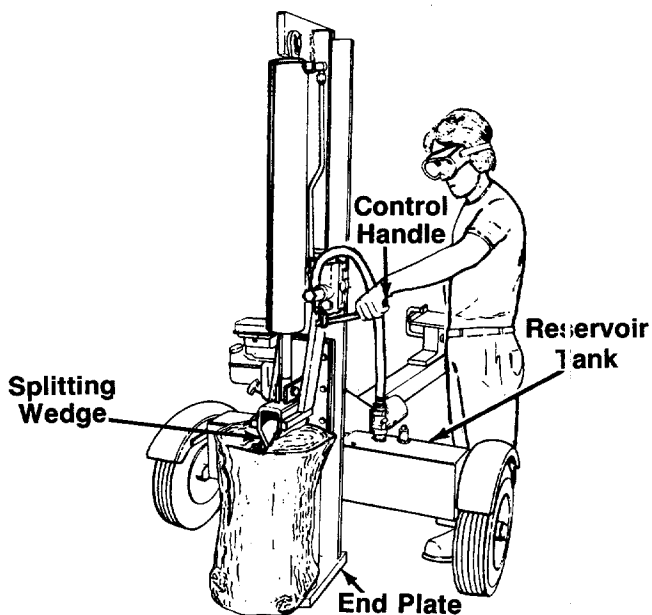

FIGURE 14.—Vertical Position
Use the log splitter only on a level, hard surface. Never stand next to the splitting wedge when operating the log splitter. Always stand behind the reservoir tank. See figures 14 and 15. Never attempt to cut a log in half sideways. Always split the log lengthwise. Maximum length of log to be split is 24".
4. **Step behind the reservoir tank** (see figures 14 or 15) and push the control handle in forward position until the log is split.